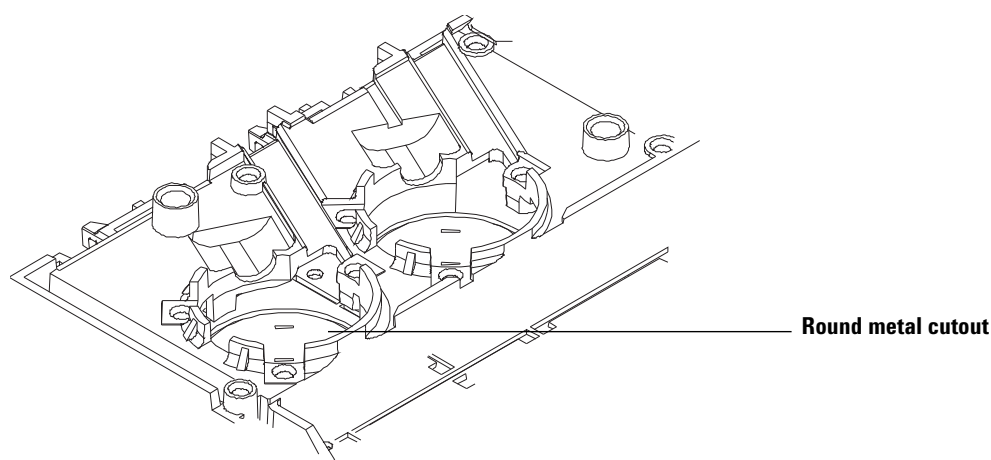

Figure 2 Inlet cutout removal
- 1 Remove the round metal cutout at this location using diagonal cutters. (See Figure 2.) Make the cuts so that the metal nubs remain attached to the discarded metal circle.